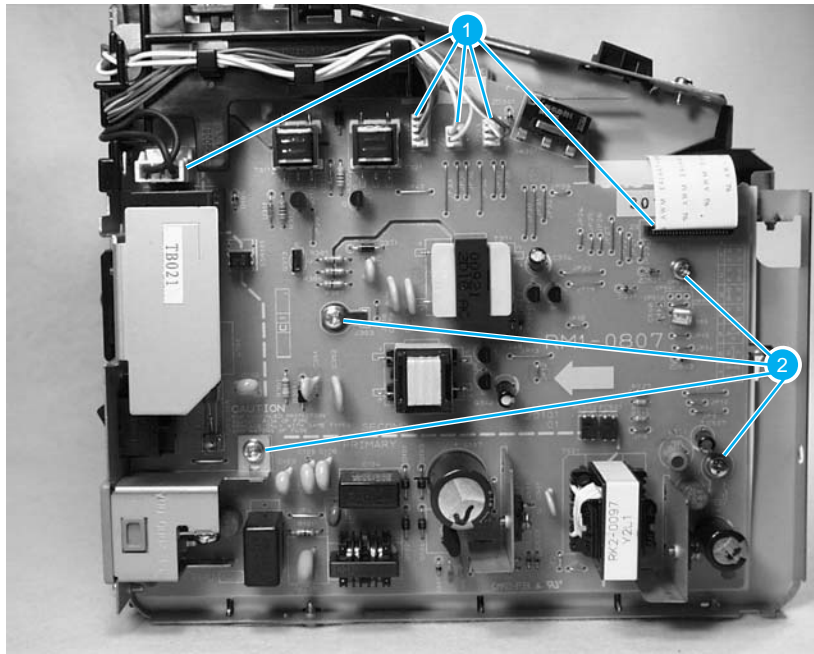

Figure 5-20.
6. Disconnect the five cables (callout 1, figure 5-20) near the top of the power assembly.
7. Remove 4 screws (callout 2, figure 5-20).